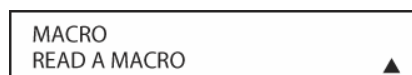

Figure 65
3. At the next menu screen, press the **▼/▲ Navigation Button [oval 16]** until the bottom line in the remote's LCD display shows READ A MACRO. Press the **Set Button [oval 18]** to begin the process of reading a macro. (**Figure 65**)